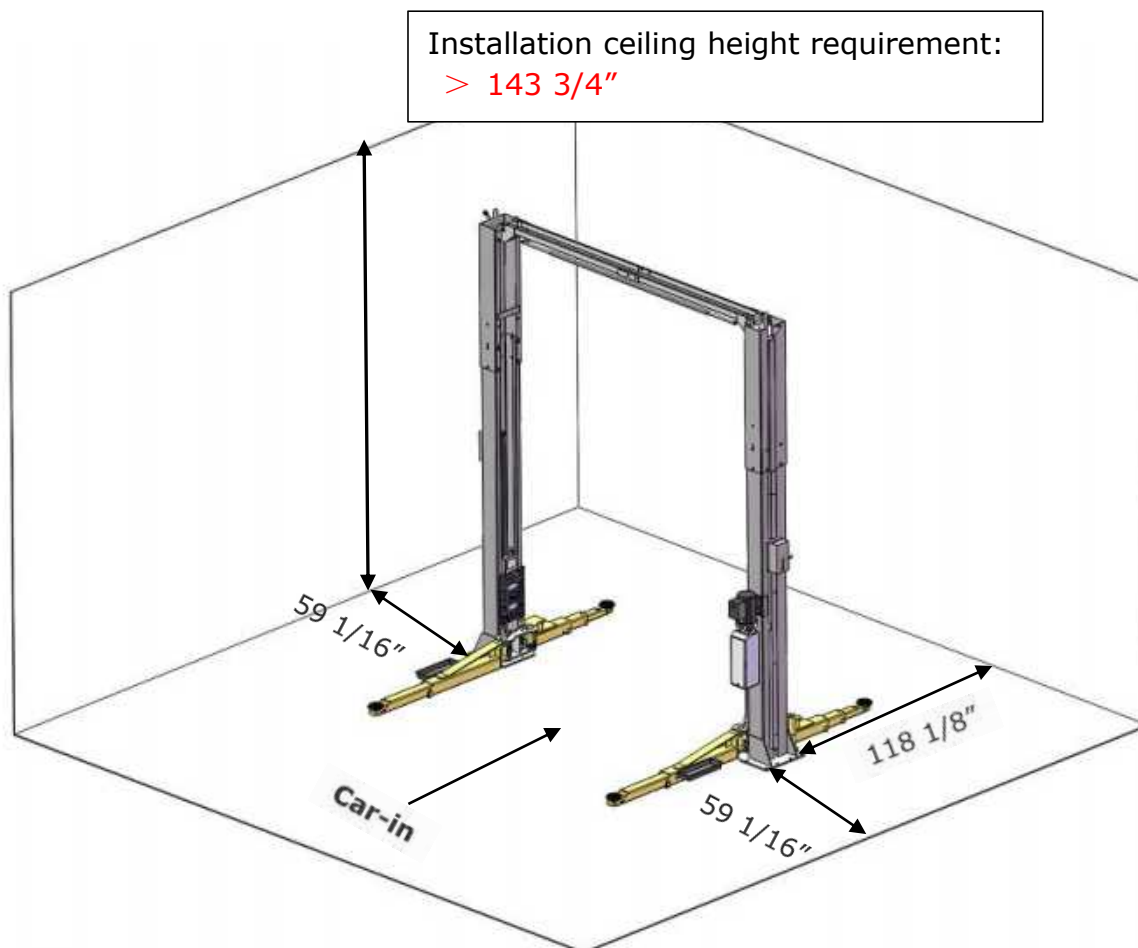

Fig. 9
1. Installation space: Ensure there is enough space for the lift. Accurately measure the front, back, side and top mounting dimensions and refer to the below figure data(See Fig. 9).